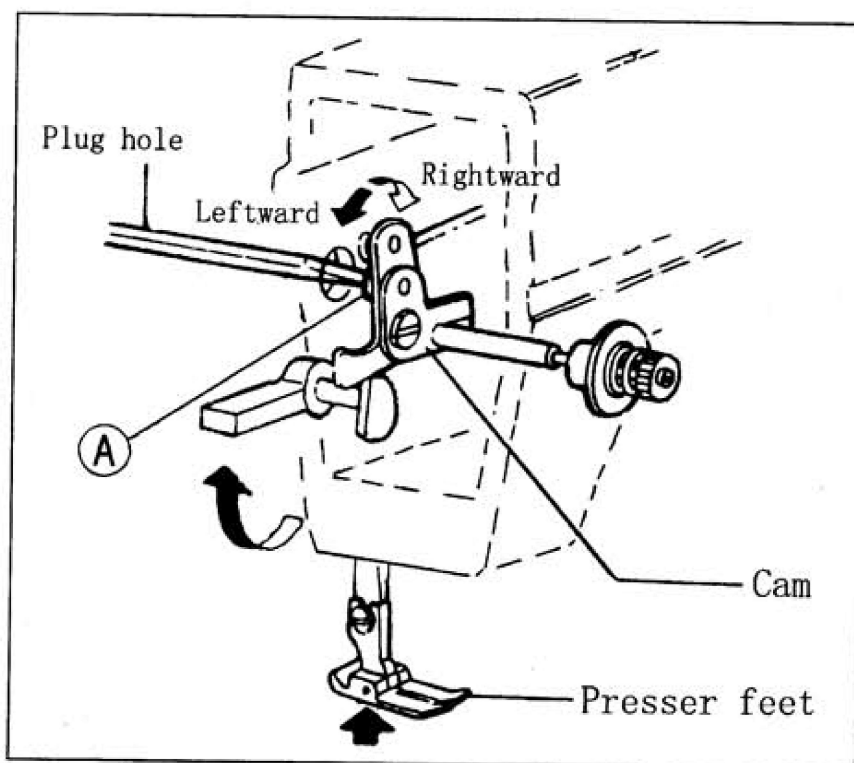

Fig. 29
21. ADJUST OPENING TIME OF THE TENSION DISCS (Fig.29)